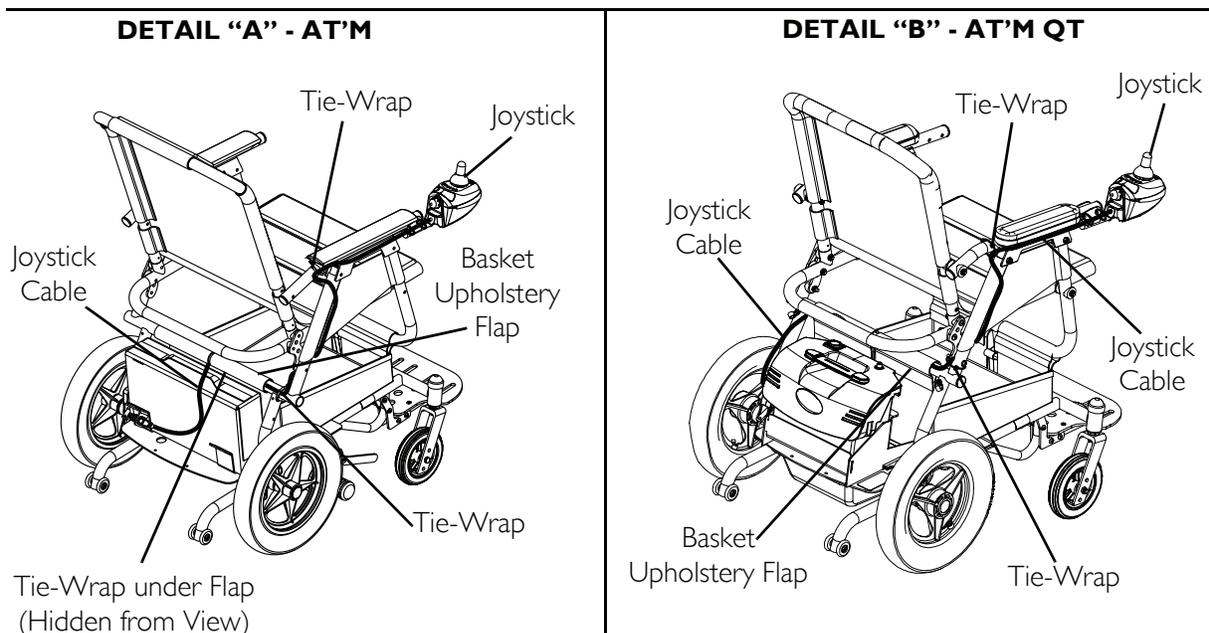

FIGURE 7.2 Repositioning the Joystick
NOTE: For this procedure, refer to FIGURE 7.2.
2. Cut the tie-wraps that secure the joystick cable to the wheelchair arm and frame. Refer to Detail "A" of FIGURE 7.2 for At'm wheelchair and Detail "B" of FIGURE 7.2 for At'm QT.
5. Remove the two (2) quick-release pins that mount the joystick to the arm.
9. Insert the two (2) quick-release pins through the mounting holes to secure the joystick to the arm.
10. Tie wrap the joystick cable to the wheelchair arm and frame as shown in Detail “A” or Detail “B” of FIGURE 7.2.